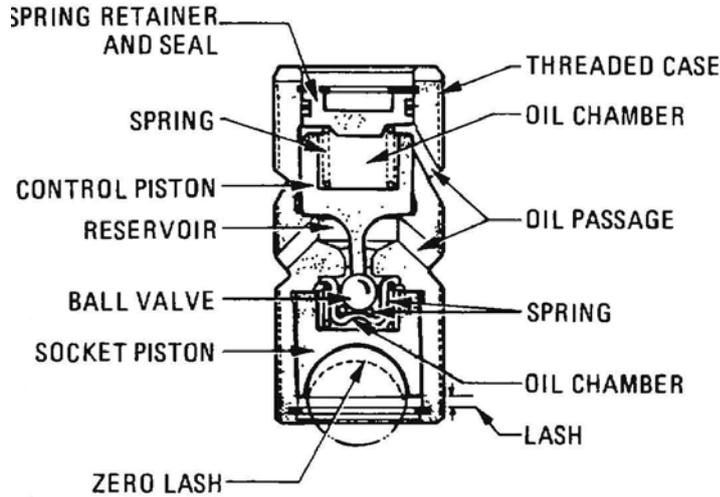

Figure 41 Hydraulic Lash Adjuster
60. The hydraulic lash adjuster is composed of two hydraulic pistons operated by lubricating oil. The control piston is on the top and the socket piston, which houses the push rod, is on the bottom (Figure 41). When the Dynatard is disengaged, oil flows into the hydraulic lash adjuster through two passages (Figure 42) in the rocker arm. This allows equal oil pressure to be applied to both sides of the control piston. With equal oil pressure on both sides of the piston, the spring is strong enough to hold the control piston down, unseating the ball valve. The unseated ball valve allows oil to flow in and out of the socket piston chamber, thus allowing the socket piston to move up and down freely within its bore. This free movement of the socket piston provides the clearance required for normal operation of the exhaust valve.